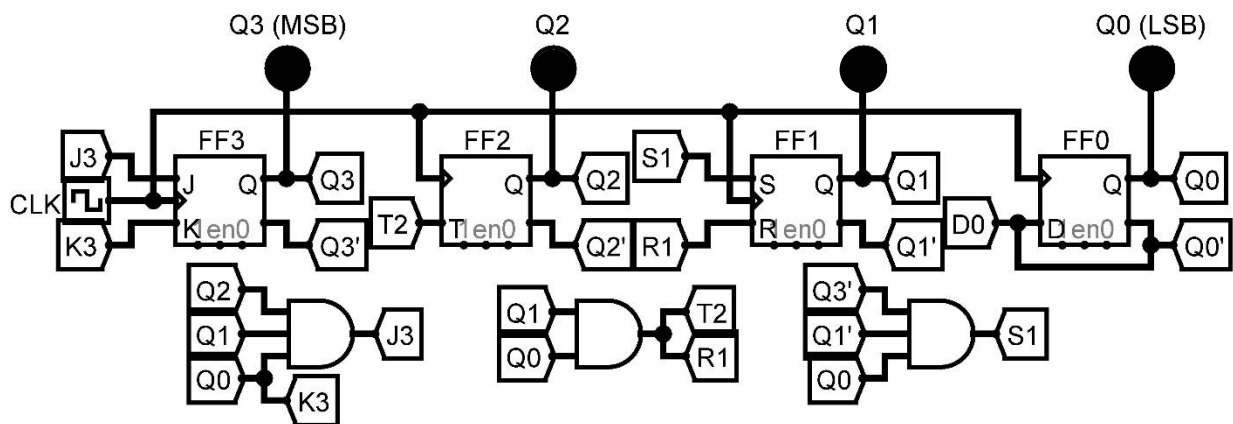

Figure 2(b)
- (b) Figure 2(b) shows a 4-bit synchronous counter, which is designed to perform a specific counting sequence.
- (i) Provide all input Boolean expressions ( $D_0, S_1, R_1, T_2, J_3$  and  $K_3$ ) obtained from Figure 2(b). (3 marks)